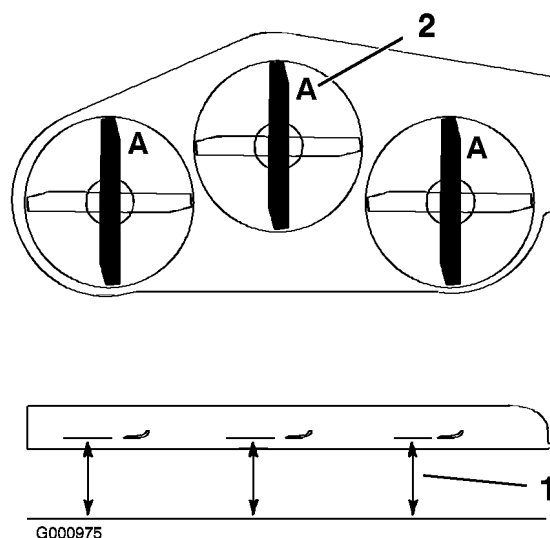

Figure 81
3. Rotate the blades until the ends face forward and backward (Figure 81). Measure from a level surface to the cutting edge, position A, of the blades (Figure 81). Note this dimension.